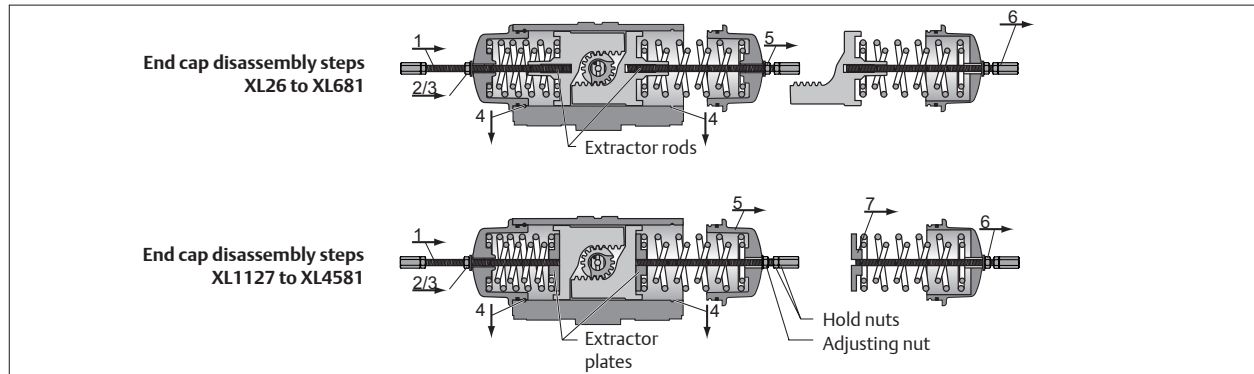

Fig. 4 End Cap Disassembly
1. Release Locking Nuts (24) and remove both Travel Stops (22) and Thread Seals (23) or 'O'-rings (23a).
2. Remove the Indicator (7) from the top of the Pinion (19) For XL26 to XL221 use an Allen key size 4mm. For the larger sizes the Indicator can be pulled from the pinion top.
3. Remove both Sealing Bolts (28) and seals (29) from the End Caps (21).
- For XL 26 to XL 681 the Pistons (20)
- For XL 1127 to XL4581 the Retractor plate (20a, see also Fig. 4) until travel is stopped (DO NOT OVERTIGHTEN) and take care the nut and washer being free of the End Cap face.
7. Prevent the "hold-nuts" to rotate by one wrench. Use another wrench, to screw both adjusting nuts half turn at a time (see Fig. 4) clockwise down the Rods until the end cap loosens (Maximum; approximately two complete turns). This draws the:
- For XL 26 to XL681 the Pistons (20)
- For XL 1127 to XL4581 the Retractor plate (see also Fig. 4) to the end caps (21) and compresses the springs. This Spring-compression, releases the Spring force and unlocks the SAFEKEY for removal.
10. When both SAFEKEYS have been removed, use a wrench to rotate the Pinion, driving the pistons (20) apart until they partially push the End Caps from the Body.
- For XL 26 to XL681 the Pistons (20), springs and end cap will come out.
11. To keep the Spring Pack Assembly intact (see Fig. 4), leave the Retractor Rod in place. To disassemble the Spring Pack, unscrew the adjusting nut on the Retractor Rod relieving the Spring force, while preventing the rod from turning with a wrench on the hold nuts.